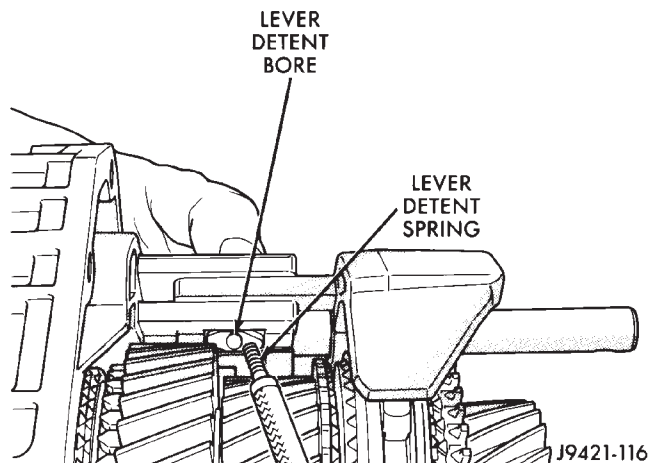

Fig. 115 Installing Detent Spring In Shaft Lever
(17) Insert detent spring in lever bore (Fig. 115).